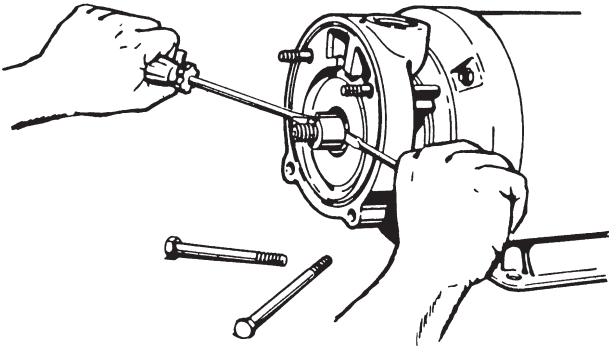

FIGURE 13
- f. Holding the screwdrivers at approximately 3 o'clock and 9 o'clock, push the handles in toward the motor body, using the motor bracket for leverage. Refer to Figure 13. This procedure usually does not require excessive force. Care should be taken not to damage the hub or motor shaft.